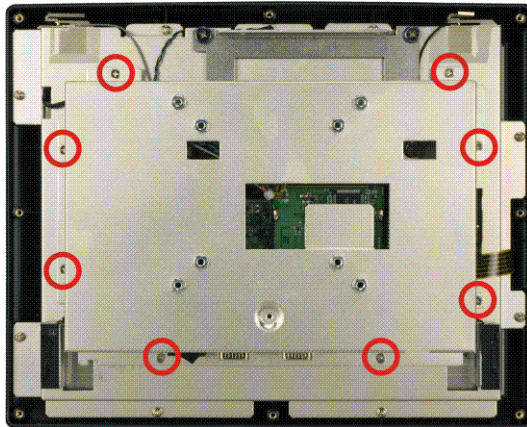

Figure 4-10: AFL-12A-LX Aluminum Back Cover Retention Screws
Step 1: Remove the eight retention screws securing the internal aluminum cover (Figure 4-10).